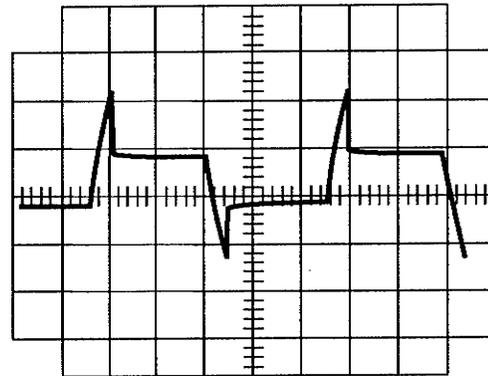

Fig. 4.7 Simulator Protection Limiting
F. 50V minimum should be obtainable before clip; signal should be a good square wave with no aberrations (Fig. 4.7).